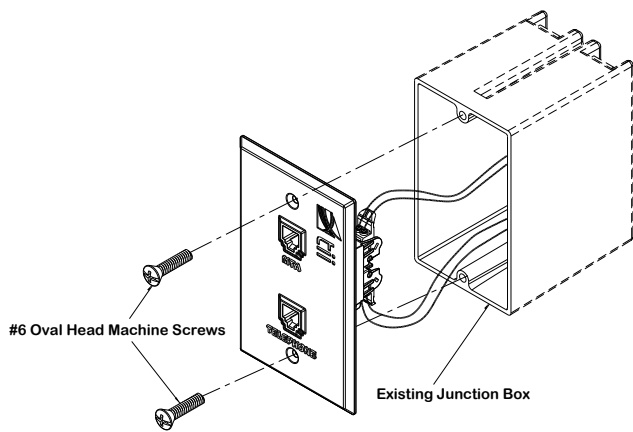

Figure 2
7. Dress the wires properly inside the junction box and secure the 761-4 to the junction box using the supplied #6 oval head screw's (See Figure 2).